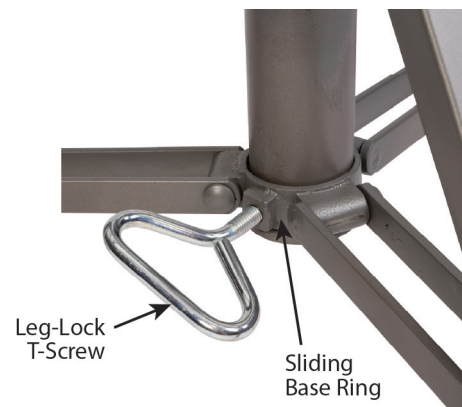

Figure 4-4: Attach Leg-Lock T-Screw
5. Insert leg-lock T-screw into sliding base ring and tighten against the base cylinder (see Figure 4-4).